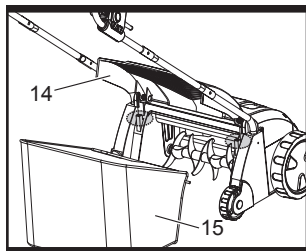

Fig. 6
a). Open the deflector guard (14), hold it in position and align the hooks on the grass catcher (15) with the hinges to hang it onto. (See Fig. 6).
b). Empty the grass catcher (15) frequently during use. Do not wait until it is completely full. We recommend emptying it when it is half full.
c). Lift the deflector guard (14) and pull the grass catcher (15) off the hinges to remove it.